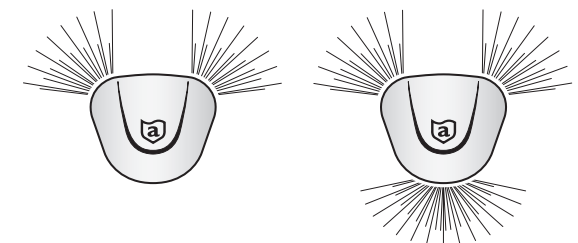

Figure 5
2. Masthead (running) Lights: Gray or red (power +) wire should be connected to the switch so it can be powered independent from the anchor light. This switch position can also be wired to control other running lights i.e. bow, stern lights. (Figure 5)
3. Anchoring (All-Round) Lights: Blue or white (power +) wire should be connected to the switch so both Masthead (running) lights and anchor light are powered at the same time. (Figure 5)